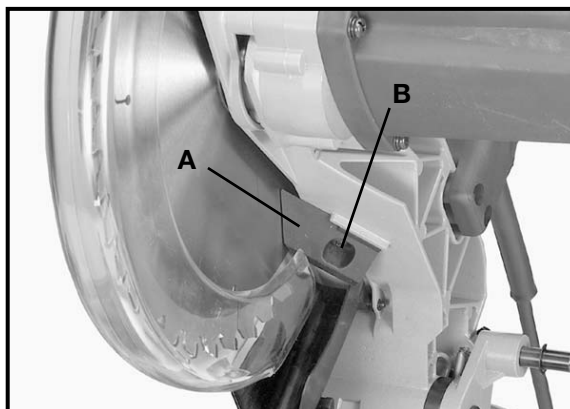

Fig. 26
2. A chip deflector (A) Fig. 26, is supplied to help prevent scrap or cut-off pieces from entering the upper blade guard. The chip deflector (A) should be adjusted so that it is almost touching the side of the blade by loosening screw (B), adjusting chip deflector (A) and tightening screw (B).